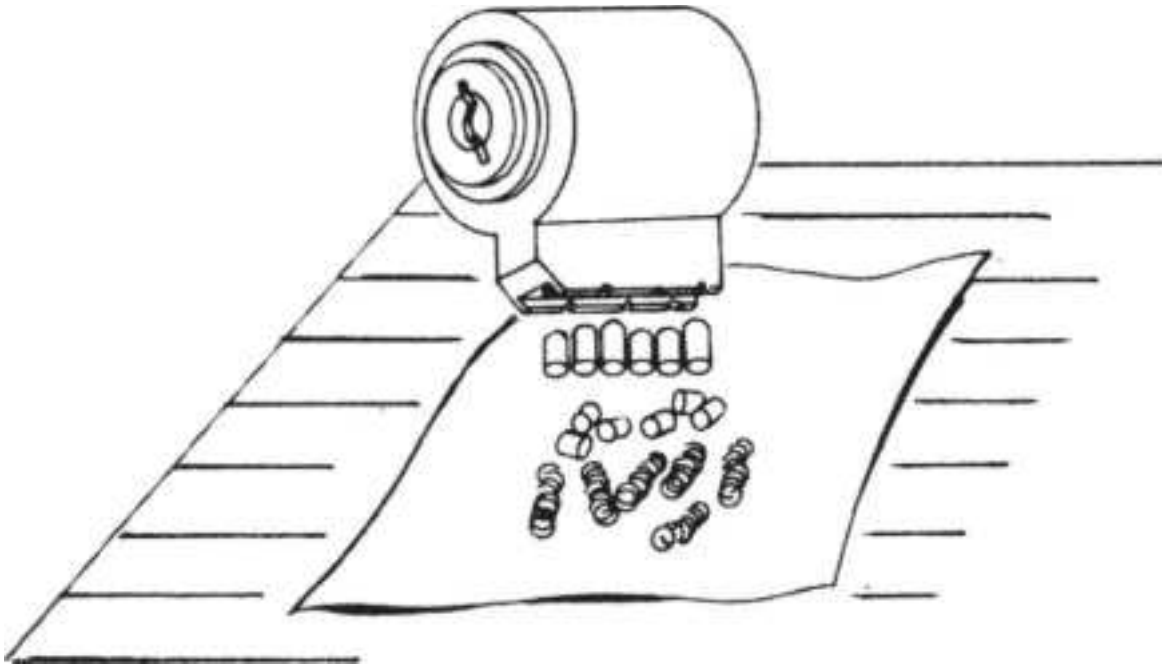

**Figure 9.23** After the slide is withdrawn, remove springs, pins, and top pins.
2. Remove the springs, drivers, and pins (Fig. 9.23).